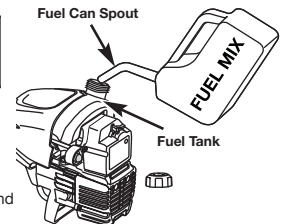

Fig. 4
2. Place the gas container's spout into the fill hole on the fuel tank (Fig. 4) and fill the tank.